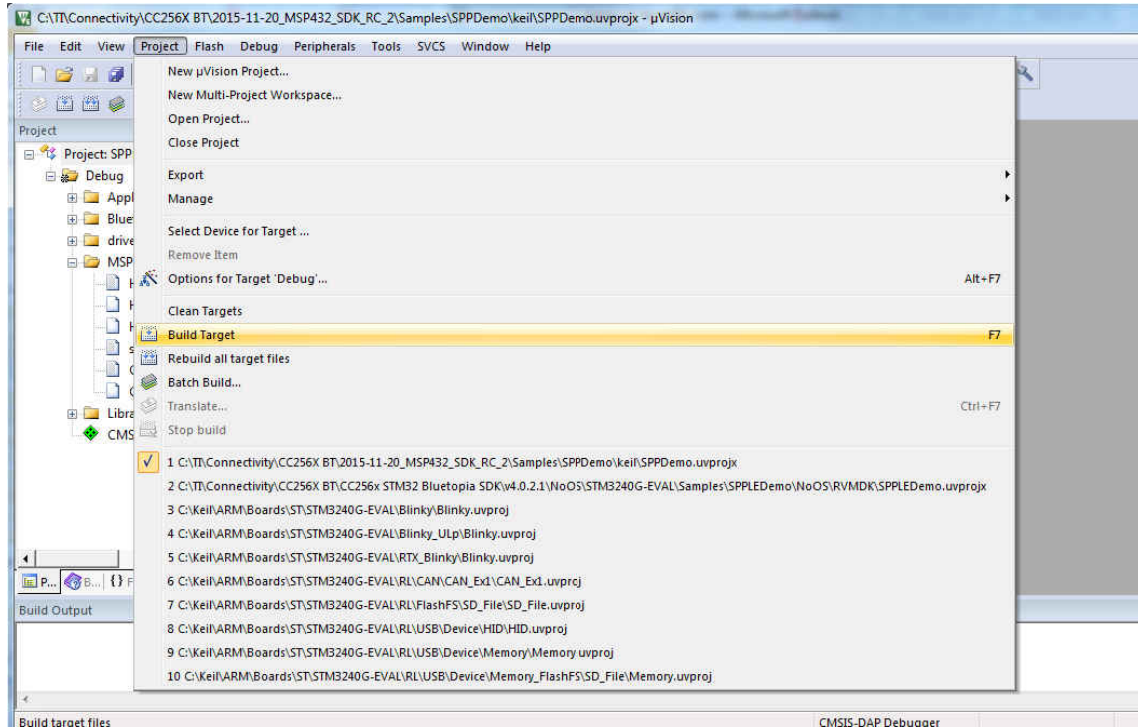

Figure 6-10. Build Project → Target
1. Navigate to *Project* → *Build Target* in the program menu (see Figure 6-10).